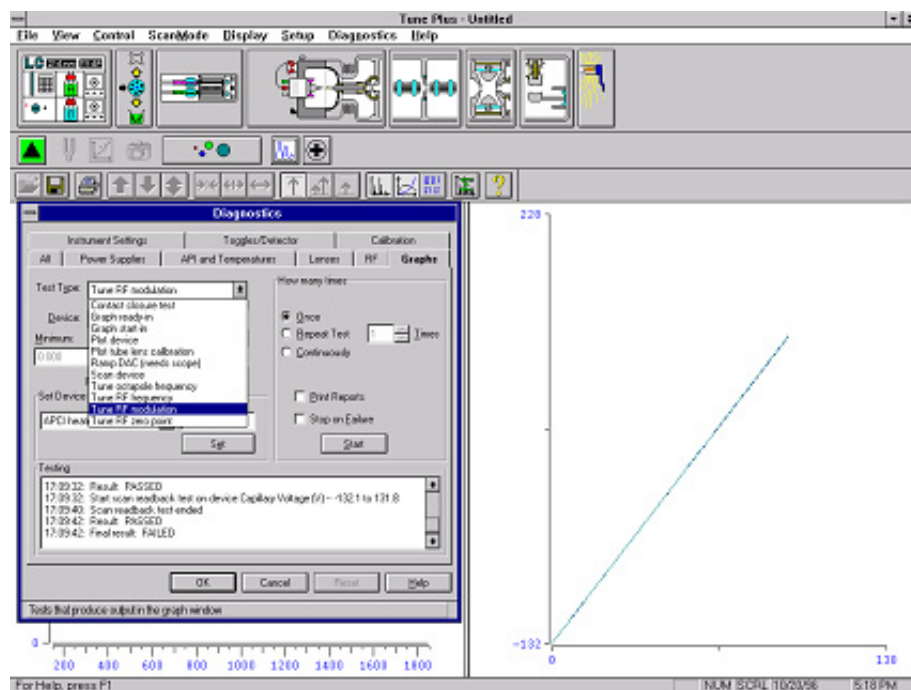

Figure 4-9. Diagnostics dialog box and Graph view
- d. Reposition the Diagnostics dialog box so that it does not obscure the Graph view. See Figure 4-9.